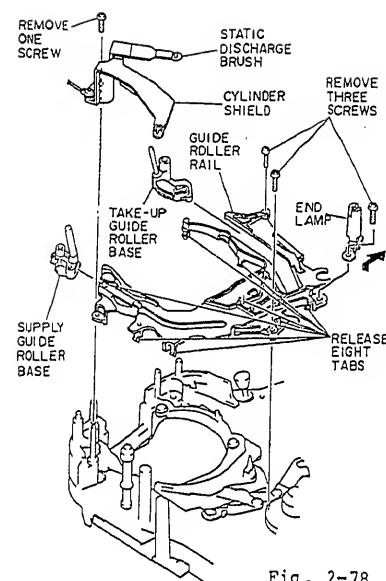

Fig. 2-78
1. Remove one (1) screw holding the cylinder brush and cylinder shield. (See Fig. 2-78)
3. Remove three (3) screws holding the guide roller rail. (See Fig. 2-78)
4. Release eight (8) tabs and remove the guide roller rail together with the supply guide roller base, take-up guide roller base and end lamp.